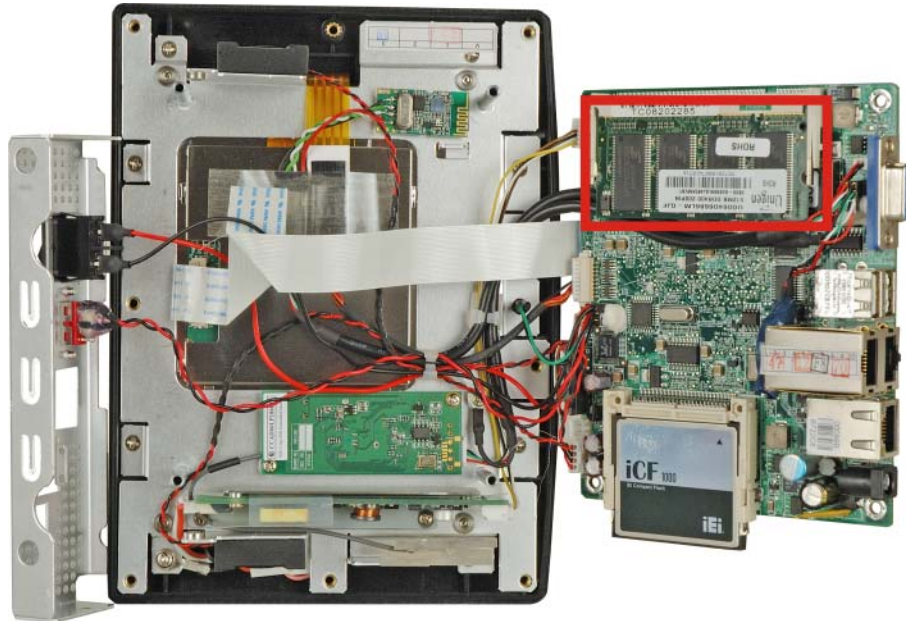

Figure 4-4: SO-DIMM Socket Location
Step 3: Locate the DDR memory module on the motherboard of the flat panel PC (**Figure 4-4**).